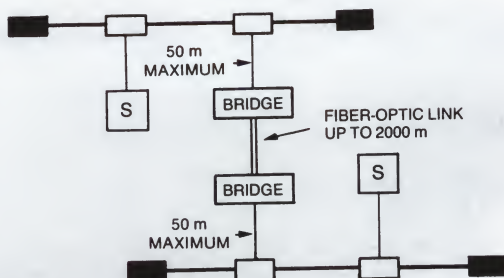

Figure A-15 ■ Remote Bridge
- A remote bridge joins two LANs by transmitting signals over a combination of transceiver cables and fiber optic link (Figure A-15).